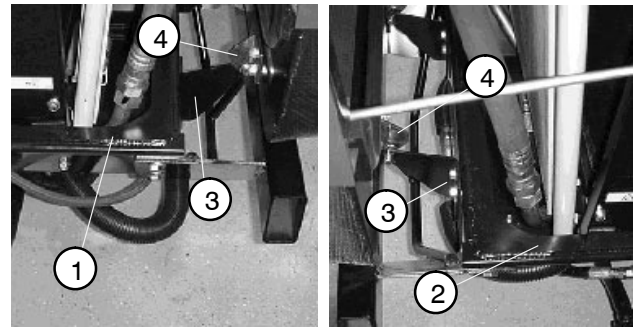

Figure 17
- A. Place shim (3/8" to 7/16" thick) on top of frame (both RH and LH sides) near the sides of oil cooler (Fig. 17).